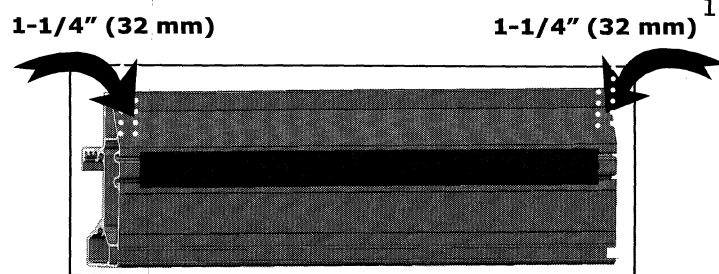

Fig. 6
11. Slide charge strip carrier into back side of rail as shown (Fig 6).